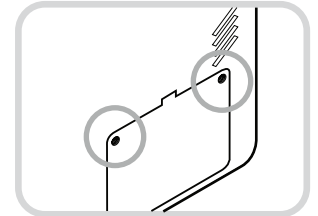

Fig. 12
- You need to accurately fit the groove at the bottom to insert it smoothly. (Fig. 12.)